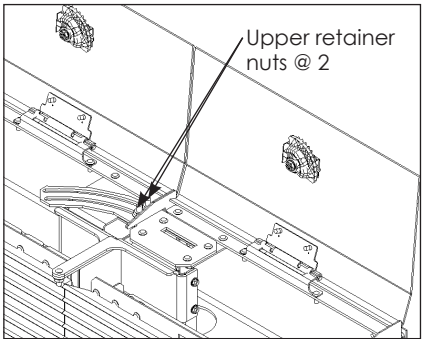
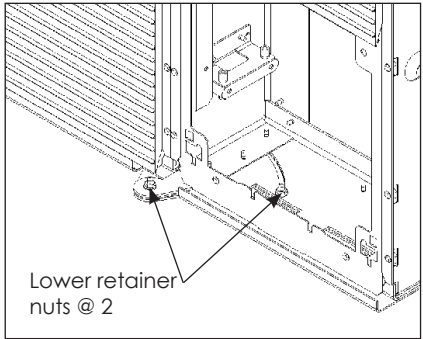

Figure 18: Loosen Upper Retainer Hardware
Figure 19: Loosen Lower Retainer Hardware
2. Loosen the retainer nuts from the upper and lower support brackets and release the latches holding the wing to the shell. Refer to **Figure 18** and **Figure 19**. The wing section is now free to rotate.